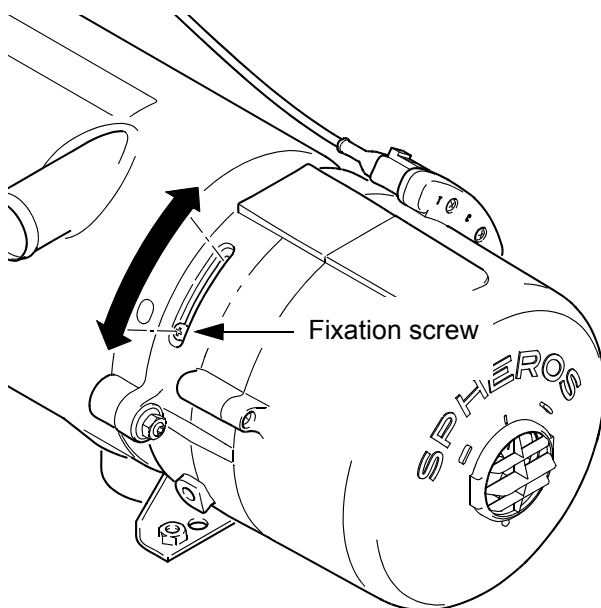

Fig. 702 Fixation screw for CO₂ setting
4. Loosen the fixation screw (see Fig. 702) and rotate the adjustment ring with the fixation screw until the target value is reached.